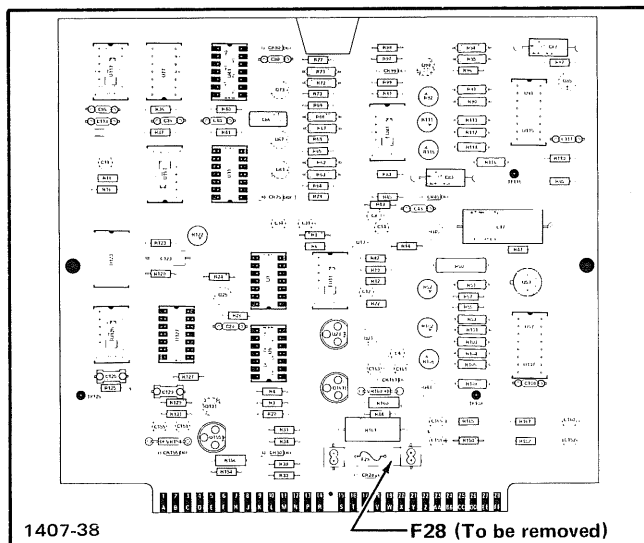

Fig. 3-11. The 4610 Hard Copy Unit Timing board fuse F28 location.
- Connect the Test Display Generator to J701 on the 613 and connect the 4610 cable to J705. Remove fuse F28 from the 4610 Timing board (see Fig. 3-11).